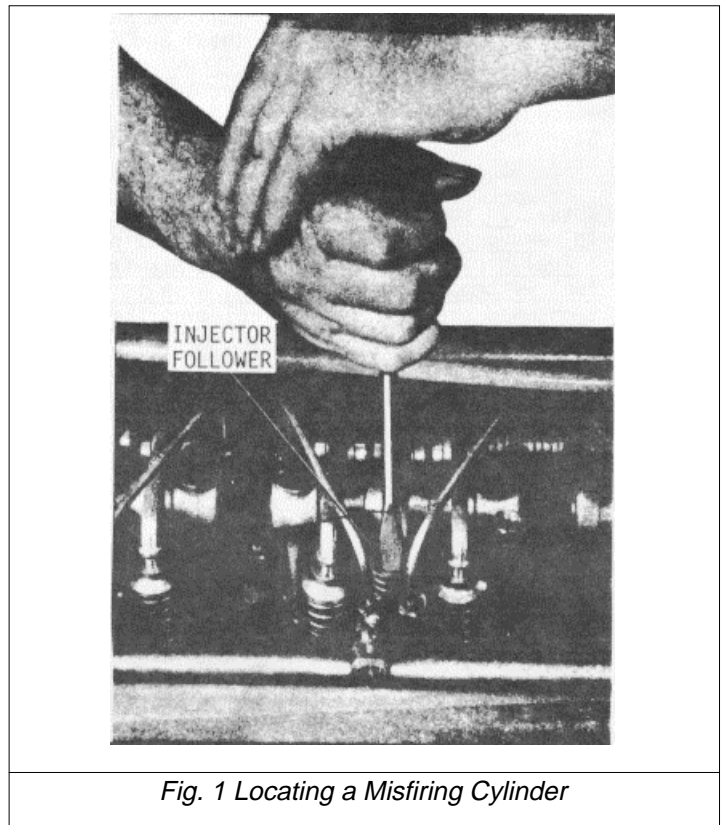

Fig. 1 Locating a Misfiring Cylinder
- (1) Start the engine and run it at part load until it reaches normal operating temperature.
- (2) Stop the engine and remove the valve rocker cover.
- (3) Check the valve clearance (SM6-5-68.0).
- (4) Start the engine. Then hold an injector follower down with a screwdriver (Fig. 1) to prevent operation of the injector. If the cylinder has been misfiring, there will be no noticeable difference in the sound and operation of the engine. If the cylinder has been firing properly, there will be a noticeable difference in the sound and operation when the injector follower is held down. This is similar to short-circuiting a spark plug in a gasoline engine.
- (5) If the cylinder is firing properly, repeat the procedure on the other cylinders until the faulty one has been located.
- (6) If the cylinder is misfiring, check the following: